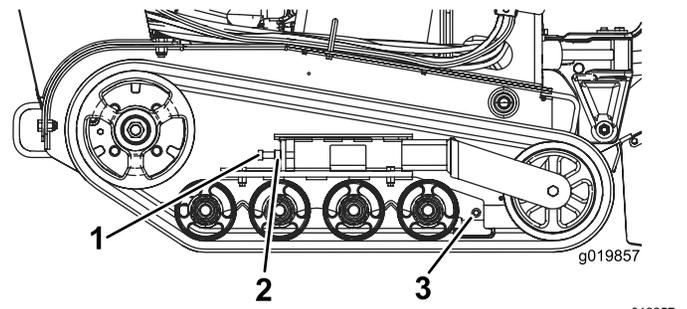

Figure 48
3. Loosen the jam nut on the track tensioning bolt and the clamp bolts on the tension arm (Figure 48).
4. Torque the tensioning bolt to 32.5 to 40 N·m (24 to 30 ft·lb) to tighten the track (Figure 48).
4. Back out the tensioning bolt and jam nut (Figure 48).